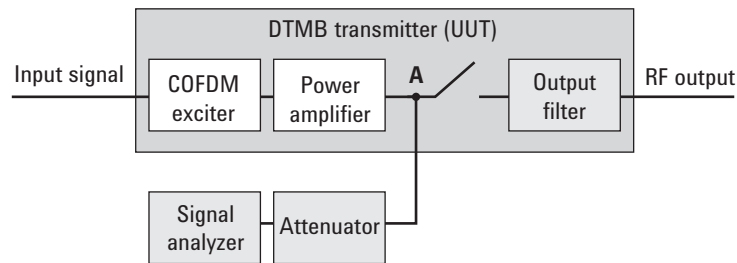

Figure 5. Diagram for spectrum mask measurement on DTMB (CTTB) transmitter without output filter
When the DTMB (CTTB) transmitter has an output filter, the diagram for the spectrum mask measurement is shown in Figure 5.
- B. Measure the signal transmitted at point A as shown in Figure 5.
- C. Apply amplitude correction on spectrum value measured in (2) using the filter’s response from (1).